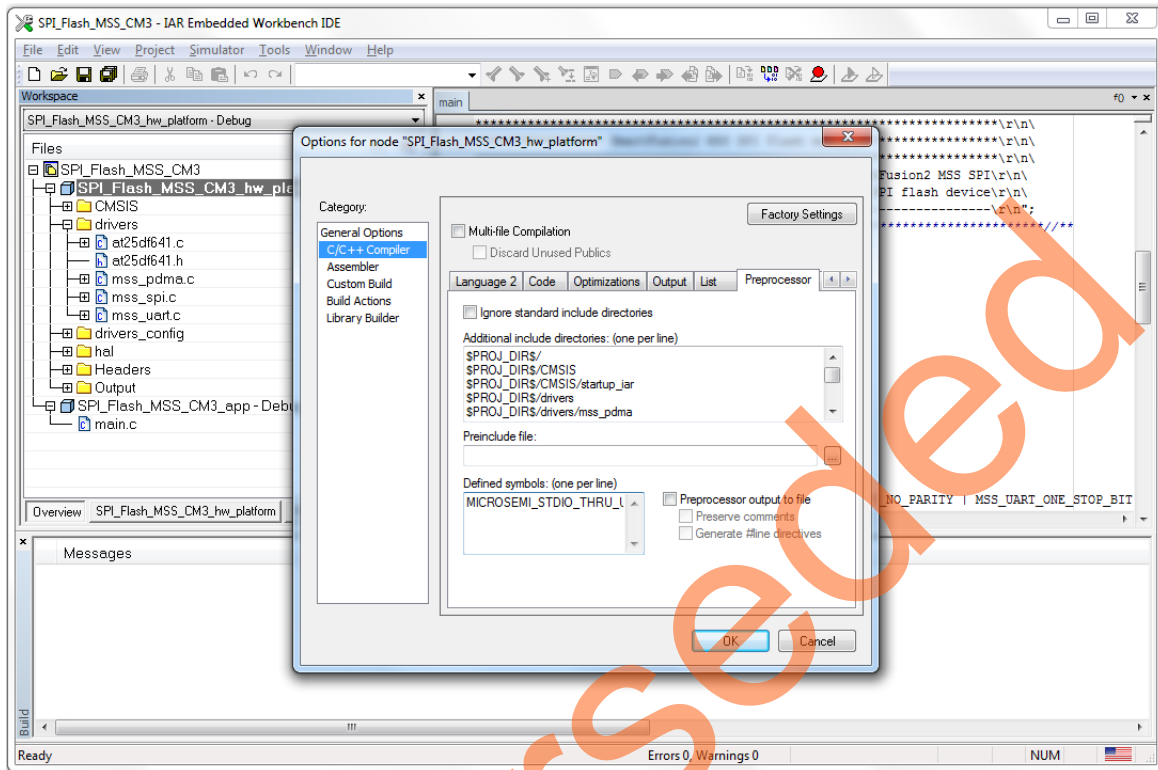

Figure 26 • IAR Workspace Window - Adding Symbol
11. Under **Defined symbols** enter MICROSEMI_STDIO_THRU_UART and click **OK**, as shown in Figure 26.